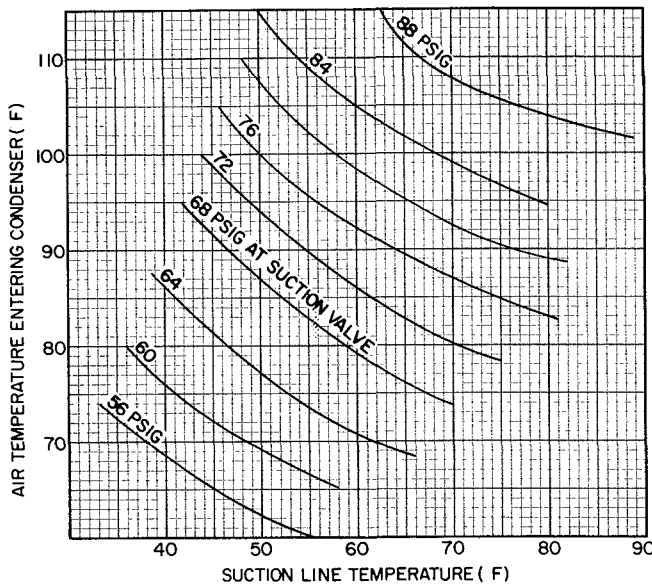

Fig. 6 – 38SE Charging Chart
38SE CAPILLARY TUBE OR ACCURATER™ SYSTEMS — Use Charging Chart, Fig. 6, and the following procedure
5. Refer to Charging Chart (Fig. 6). Find condenser air temperature and project horizontally to curve showing suction pressure.